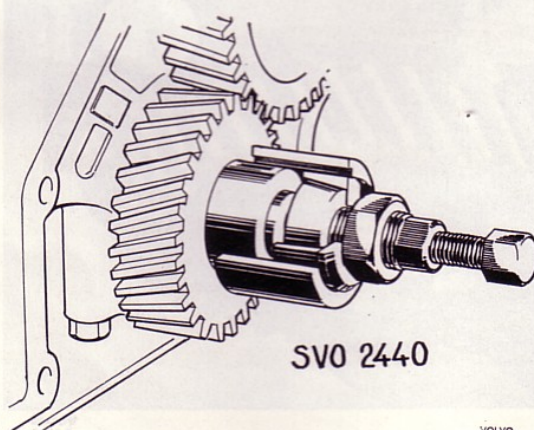

Fig. 44 Removing the hub on the crankshaft
3. Remove the hub from the crankshaft with puller SVO 2440. See Fig. 44.